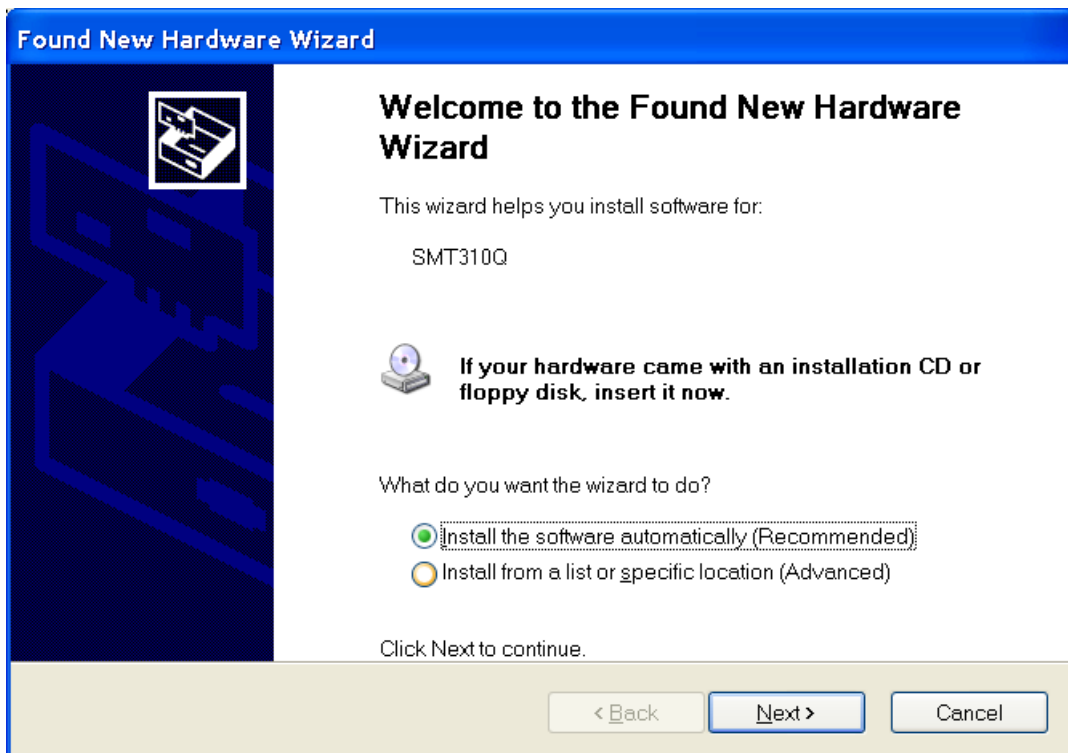

Figure 1 - Hardware wizard
4. Power-up your PC. If you are using¹ Windows 2000 or Windows XP, the hardware wizard should appear (Figure 1);